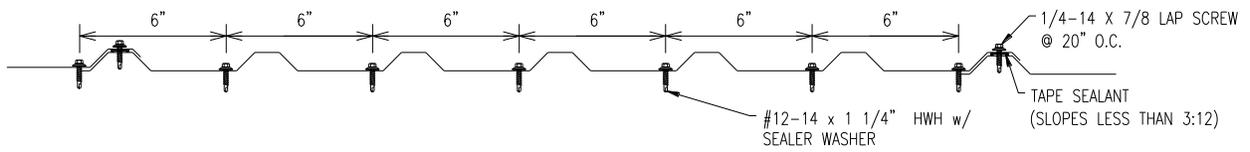

Figure 1: Fastener Patterns
- **Attachment of Metal Roofing Panels to the Steel Purlins:** Secure the PBU metal roofing panels to the steel purlins with No. 12-14 x 1-1/4" long HWH self-drilling with an integral washer. Locate a line of fasteners along each steel purlin. Follow the specifications in Table 1 for the fastener pattern and the spacing of the fasteners. Use fasteners that are long enough to ensure a minimum penetration of three pitches of thread below the steel purlin. Refer to Figure 1 for the fastening pattern on interior panels.
- **Panel Ends and Edges to the Steel Purlins:** Minimum No. 12-14 x 1-1/4" long HWH self-drilling with an integral washer. Locate a line of fasteners in a 6"-6"-6"-6"-6" pattern along the steel purlin. Use fasteners that are long enough to ensure a minimum penetration of three pitches of thread below the steel purlin. Refer to Figure 1 for the fastening pattern for panel ends and endlaps.